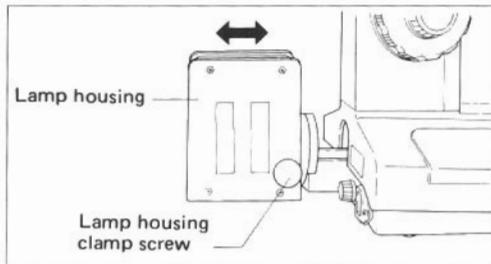

Fig. 5
- 6) Stop down the condenser aperture diaphragm, release the lamp housing clamp screw, and move the lamp housing back and forth (Fig. 5), until a sharp image of the lamp filament appears on the aperture diaphragm surface, which can be seen by the reflection from the ND filter.